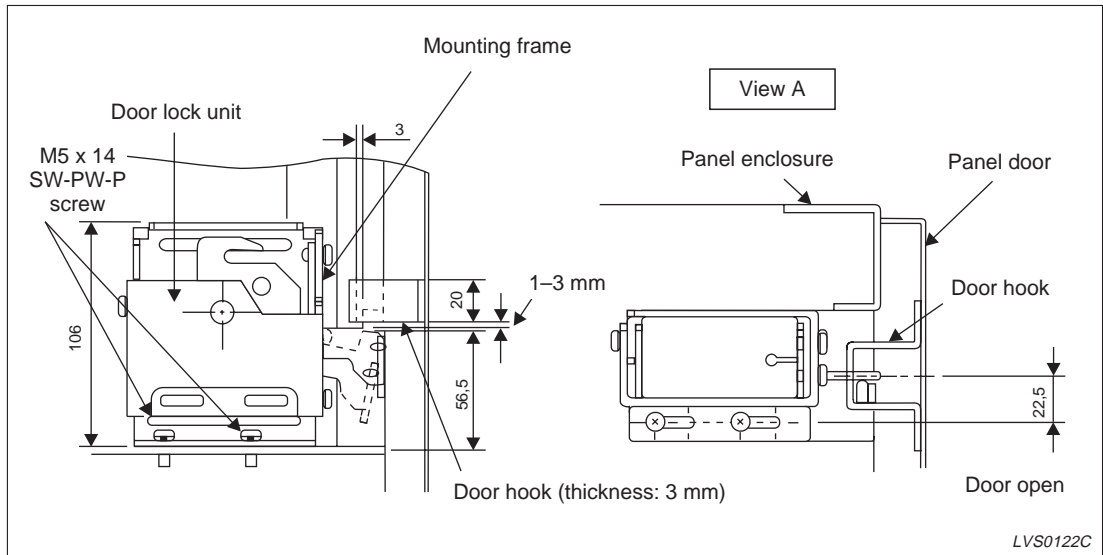

Fig. 4-58: Example for mounting the door lock
- ① Mount the door lock unit at a suitable place for door locking in the panel by using 2 M5 x 14 screws (refer to fig. 4-58 as an example).